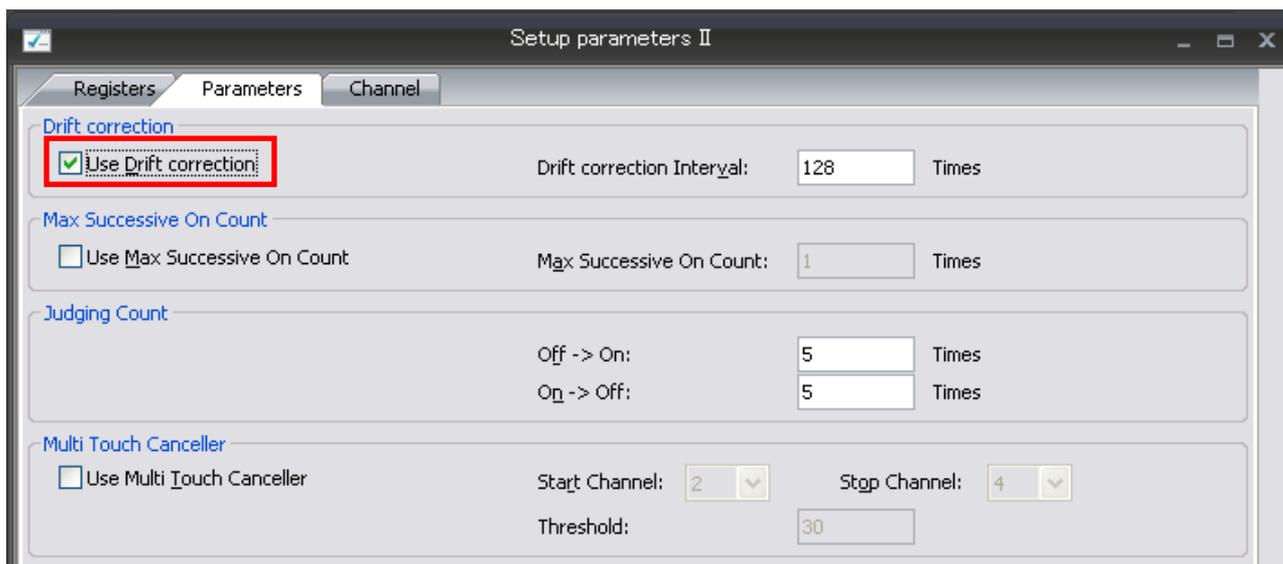

Figure 2-12 Select to Use Drift Correction
- (1) Start the Setup parameters function of Workbench.
- (2) Click the Parameters tab on the Setup parameters and confirm that the ‘Use Drift correction’ checkbox is checked as shown in Figure 2-12.